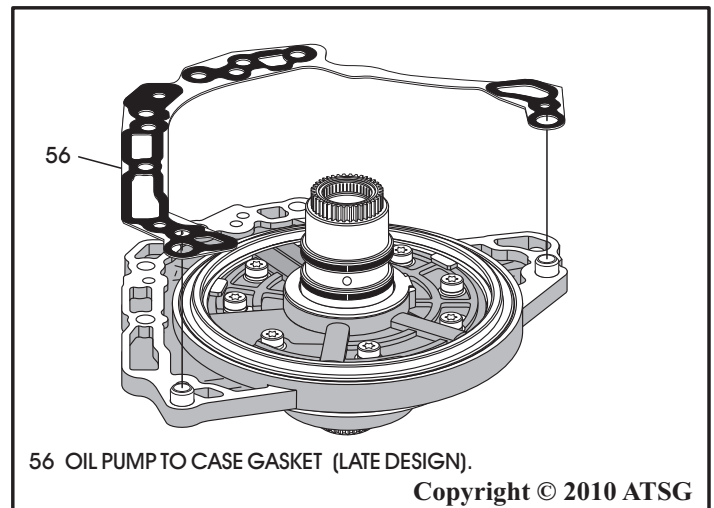

Figure 191
55. Install new design pump to case gasket over the dowels on oil pump, as shown in Figure 191, and retain with a small amount of Trans-Jel®.